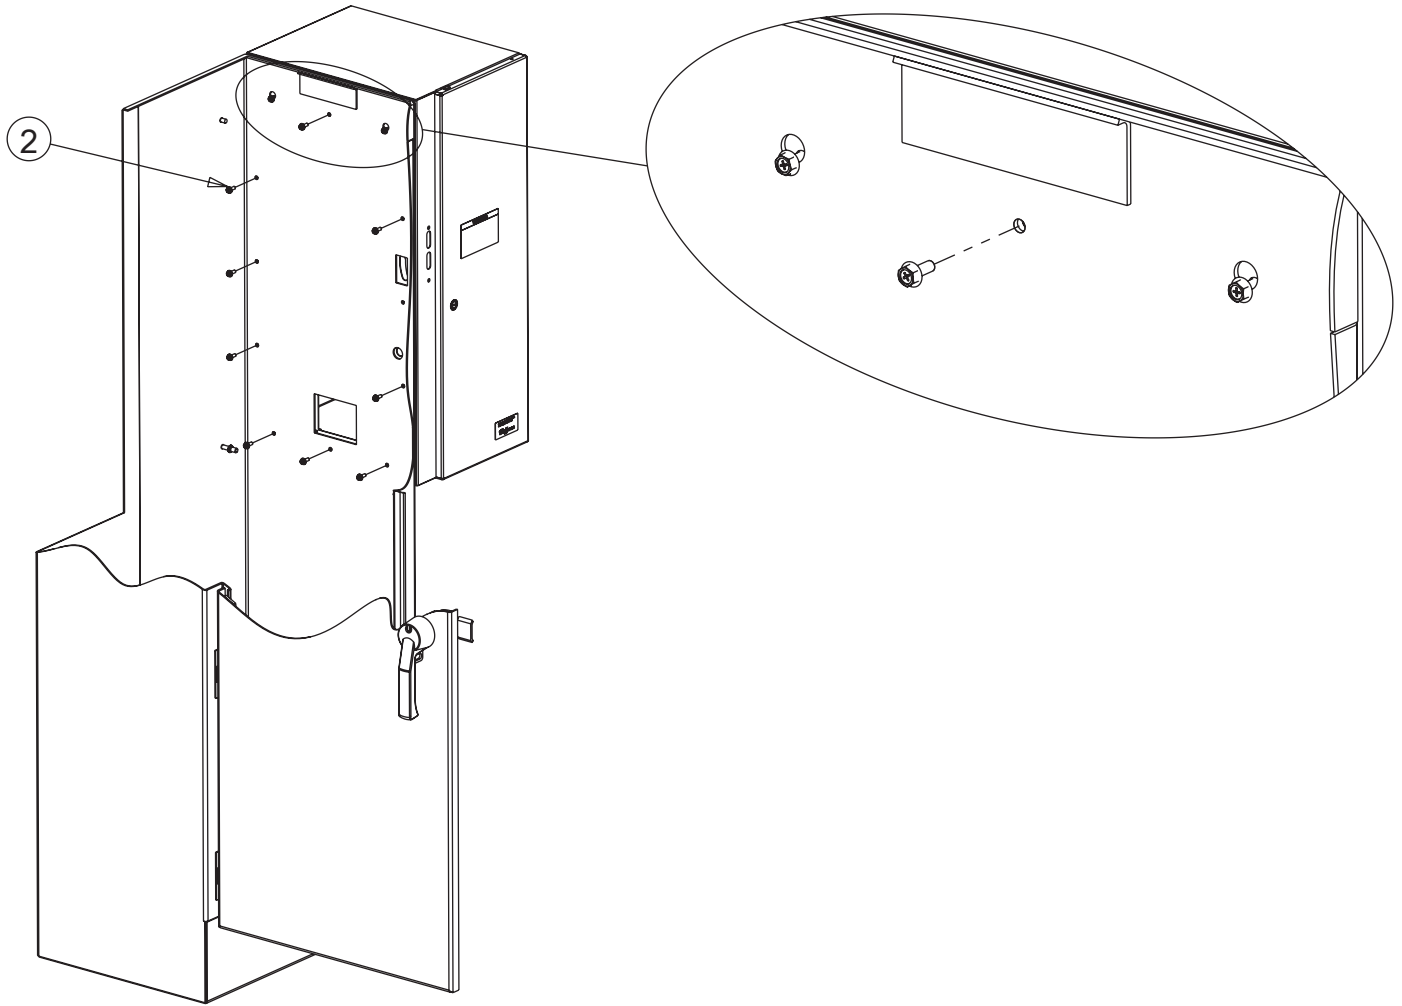

Figure 1B
4. Referring to Figure 1B, hang the Sequestr enclosure on the side of the control enclosure by inserting the two bolts into the slotted holes in the side of the control enclosure.